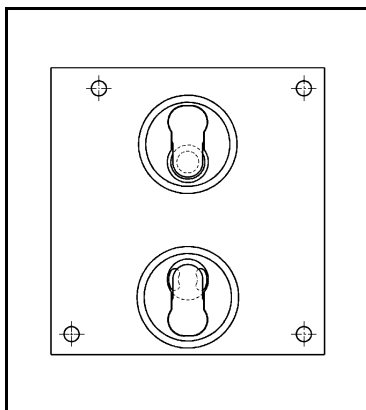

Fig. 23: Position of valve plates
2. Check valve seats and intermediate plate (5) for soiling and damage. Clean the parts if necessary.
4. Lay new valve plates (3) in the valve seats of the intermediate plate (5). See Fig. 23 for position.